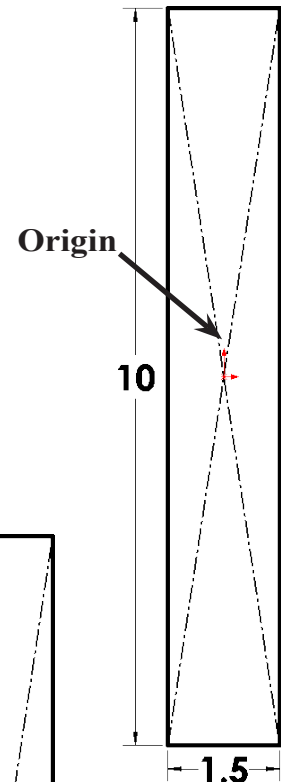

Fig. 2
Step 3. Click **Center Rectangle**  (S) in the **Rectangle** flyout  on the Sketch toolbar.
Step 4. Draw a rectangle starting at Origin , **Fig. 2**.
Step 5. Click **Smart Dimension**  (S) on the Sketch toolbar.
Step 6. Add dimensions as shown in **Fig. 2**. 10 x 1.5
Step 7. Click Zoom to Fit  (F) on the View toolbar.